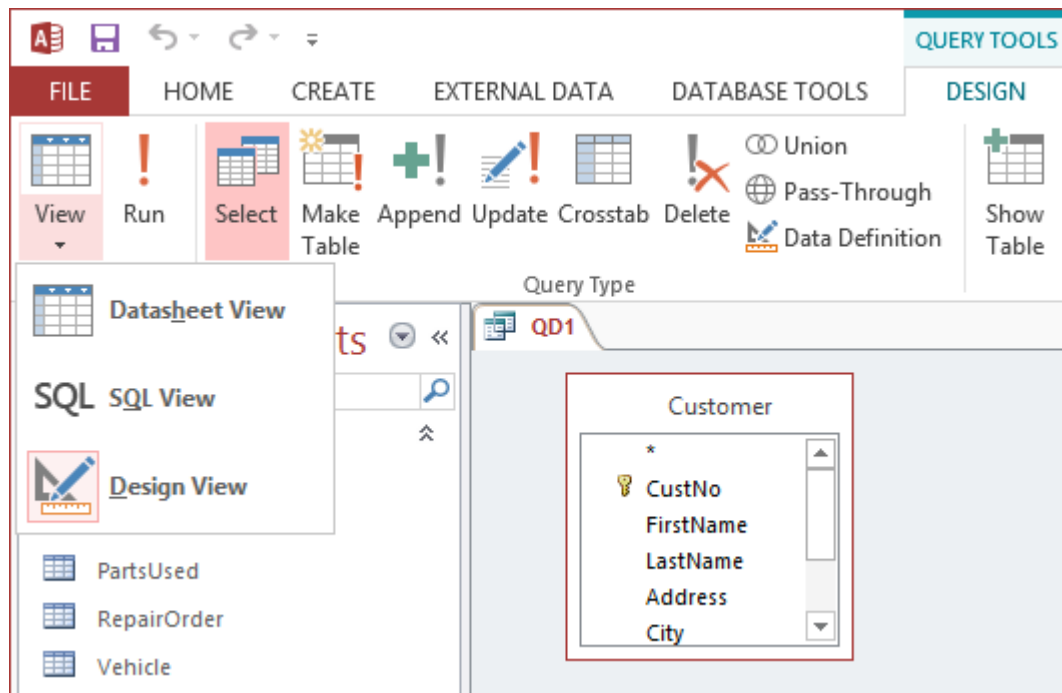
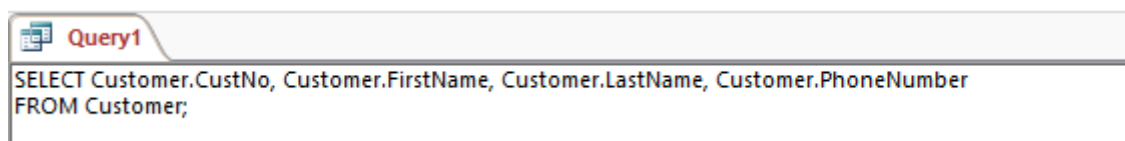

Figure 6: View Menu Showing the SQL View Command
Figure 7: SQL View for “QD1”
1. Accessing the SQL Window: With the Query Design view open, click **View** → **SQL View** (see Figure 6) in the **Design** tab of the Ribbon. The SQL view appears (Figure 7) in the view pane.
1. **Use the query tools:** With Query Design view open, you will see Query Tools in the ribbon. Choose **Query Tools | Design → View** in the Results group (Figure 6) and the three view choices appear.